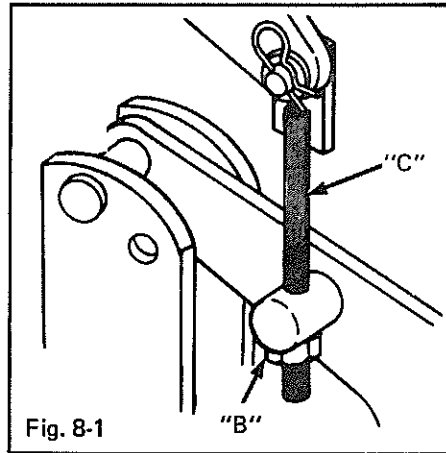

Fig. 8-1
Position stop nuts (B) Figure 8-1 on lift links flush with bottom of pivot stud (C). Turn up on the studs until desired height is obtained.
If mower needs leveling from side to side, adjust by turning nut (B) Figure 8-1 either up or down on lift studs (C).